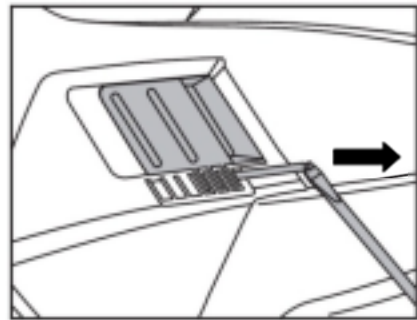

Fig. 1
- (1) Slide the pin out of its groove (see Fig. 1).